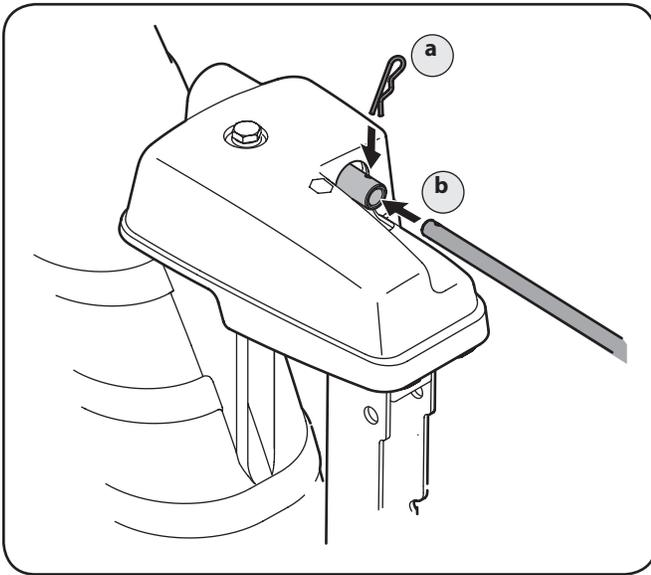

Figure 3-9
- Remove the cotter pin and insert the chute crank rod into the connector on the chute control assembly. See Fig. 3-9.